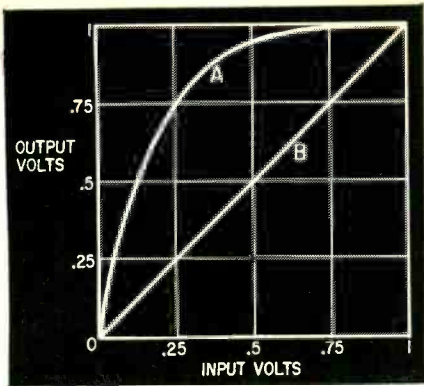
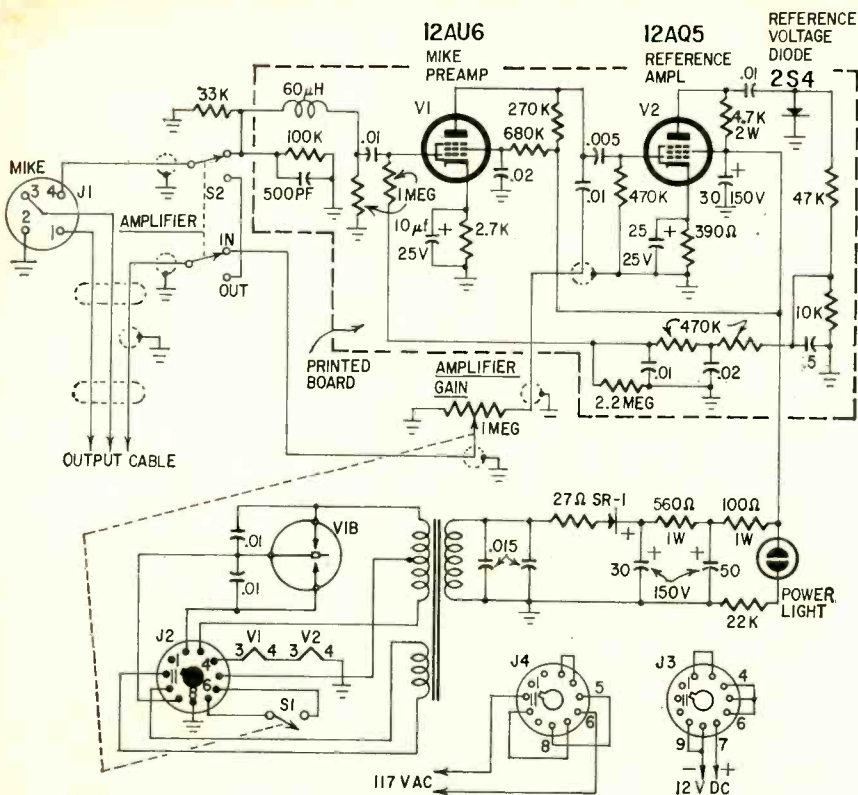

Fig. 2—Gain of compressor amplifier (curve A) levels off at high amplitudes; Ordinary amplifier (B) is more or less linear up to overload point.
Fig. 4—A compressor type accessory, Sampson power modulator rectifies amplified speech signal, biases preamp accordingly to limit gain on loud signals.
plified much more than in a constant-gain amplifier, while the louder sounds get little or no amplification. Fig. 2 compares the output of a speech or volume compressor (curve A) with that of a conventional constant-gain amplifier (curve B).
In a speech compressor, we rectify and filter a portion of the modulator's audio output and use it as a variable negative bias on the compressor stage. Fig. 1-d shows our typical audio waveform of modulation for various speech levels form (Fig. 1-a) after passing through a speech compressor with the gain curve (A) in Fig. 2.
The signal from the microphone is amplified by the 12AU6 (Fig. 4) and fed simultaneously to the grid of the 12AQ5 and to the transmitter's speech amplifier via the AMPLIFIER GAIN control. The 12AQ5's output is rectified and filtered to produce a variable negative grid bias for the 12AU6. The filter network is arranged so the 12AU6 operates with high gain for weak sounds and low gain for loud sounds. The gain curve of the 12AU6 looks like curve A in Fig. 2.